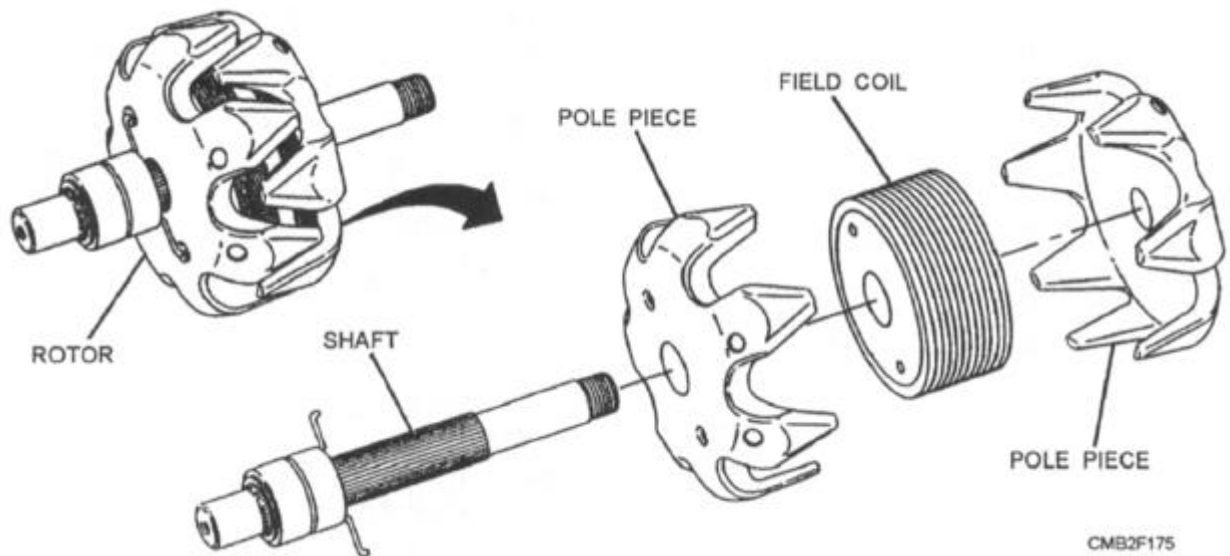

Figure 2-22.—Rotor assembly.
**ROTOR ASSEMBLY** (fig. 2-22).—The rotor consists of field windings (wire wound into a coil placed over an iron core) mounted on the rotor shaft. Two claw-shaped pole pieces surround the field windings to increase the magnetic field.